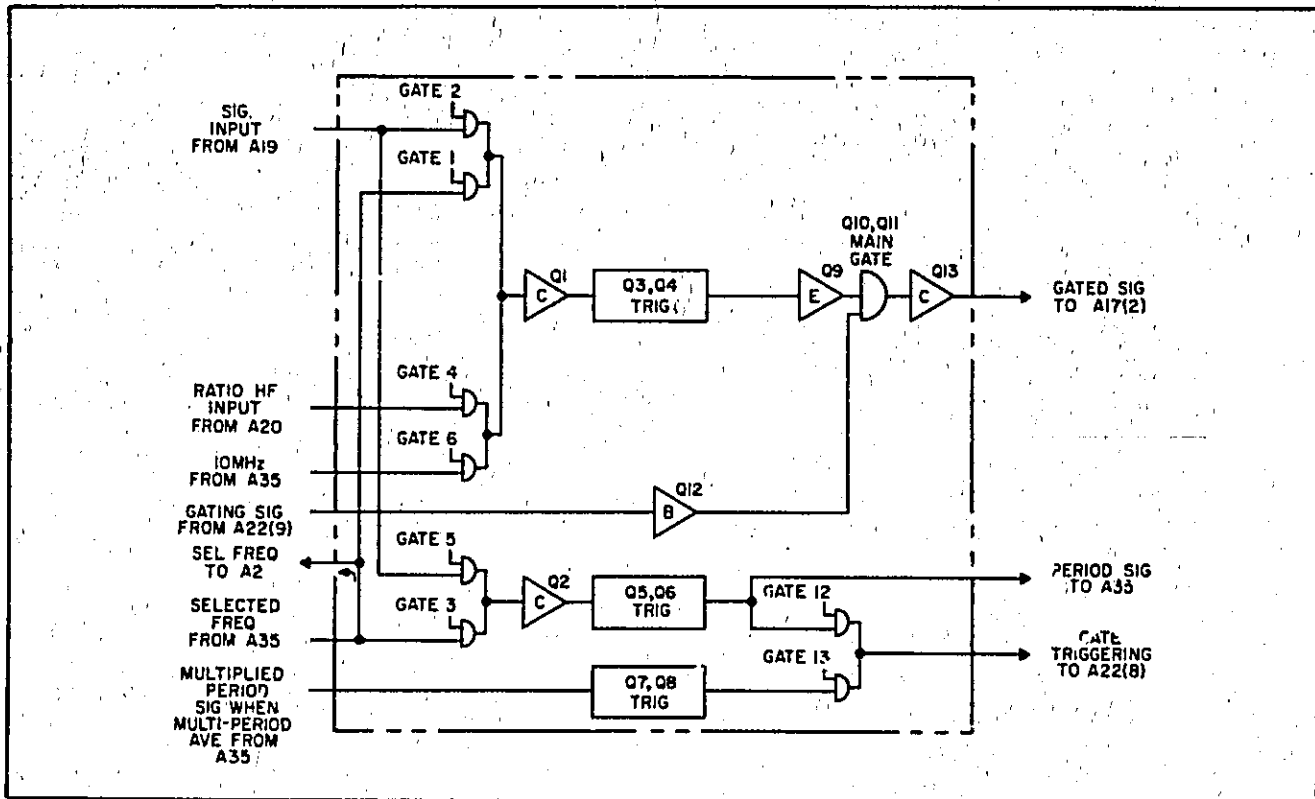

Figure 2-17. Function Control Block Diagram
**2-92. GENERAL.** The function control assembly, Figure 2-17, switches the counter logic circuits to perform the various counting functions. The signal which is counted by the decimal counting assemblies is switched to the high frequency trigger by one of the input gates; 1, 2, 4, or 6. The resulting pulses are gated by the main gate and then drive the 50 MHz DCA, A17. The signal to control the main gate is switched to the period trigger by input gates 3 or 5. The resulting pulses either drive the gate control assembly, A22 directly through gate 12 or are divided by the decade divider assemblies and then drive the gate control through gate 13.